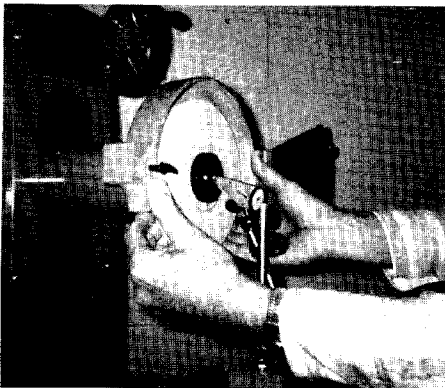

Figure 16
**E. Loss of preload.** Occasionally, due to a phenomenon called fretting corrosion (usually caused by out-of-balance wheels), the rear bearing outer race will freeze in the spindle sleeve, and the wave springs will no longer hold the spindle shaft tightly back against the front bearings. To check for loss of preload, place an indicator against the spindle nose as shown in Figure 16 below. Push against wheel guard with thumbs, pulling wheel forward while watching indicator. When released, needle should instantly return to original position. If needle will return to original position only by rotating wheel by hand, return spindle to factory for repair. Be sure to state that there was a loss of preload on this test.